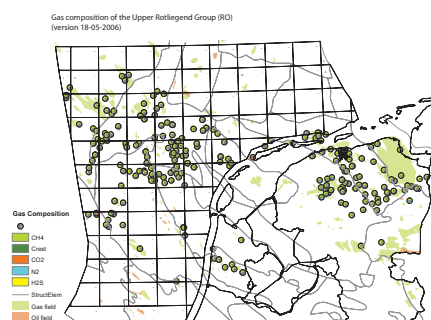

Figure 4 Geochemical composition of natural gas in the Upper Rotliegend Group.
- Geochemical composition of natural gas accumulations (Figure 4).